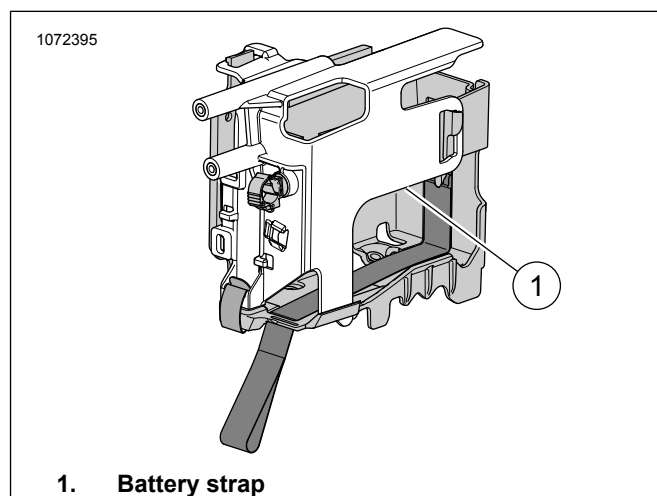

Figure 19. Battery Strap Location
6. See Figure 19. Remove battery strap (1). See service manual.
13. See Figure 19. Install battery strap.